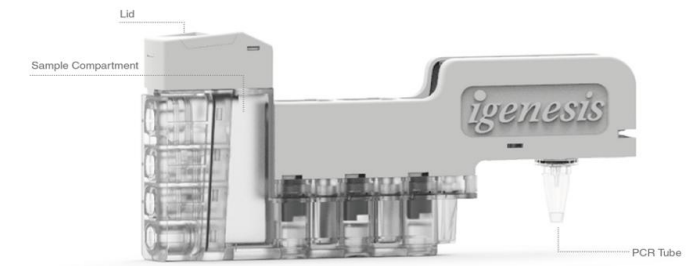

Figure 1 CA16/EV71/EVG iCassette (Lateral View)
- Open the lid of the iCassette, and pipette 200 µl of sample or controls to the CA16/EV71/EVG iCassette sample compartment as shown in Figure 1. slowly, close the lid tightly. (Note: After the sample is added to the iCassette, the test needs to start running within 30 minutes)